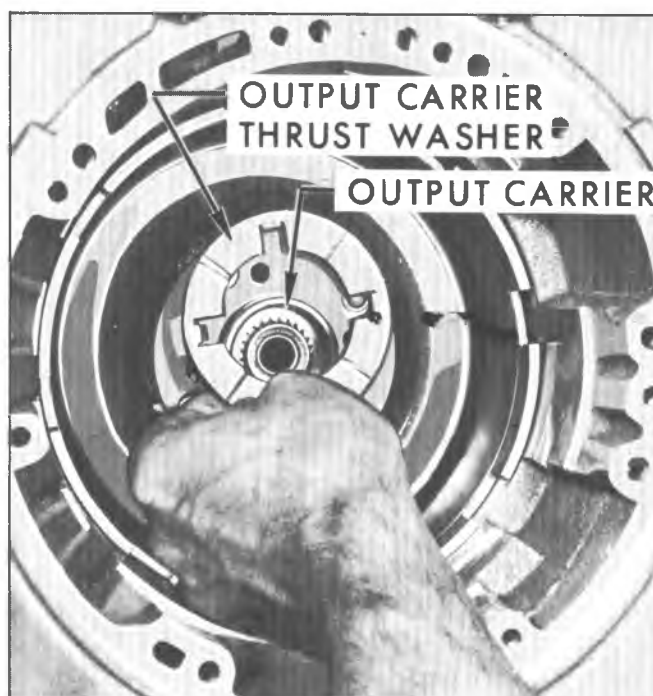

Fig. 36M--Removing Input Ring Gear Rear Thrust Washer
11. Remove input ring gear rear (output carrier) thrust washer (fig. 36M).